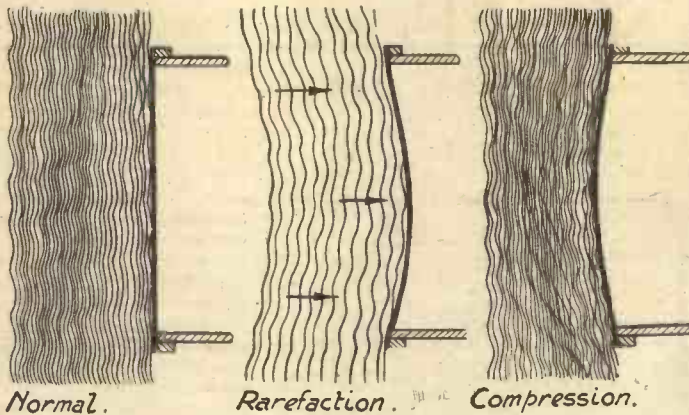

Fig. 1.—A diagrammatic representation of a drum-head, and the condition of the air surrounding it.
**B**EFORE we can discuss the question of the design of loud-speakers it is necessary to have a clear idea of just what a sound wave is. For the purpose of this article, I am going to deal with the reproduction of a note produced by a large bass drum, and the following description should be read in conjunction with Fig. 1. The figure at the left of this illustration represents a drum head at rest, and the thin wavy lines at the left are representative of the air in front of the vellum (or skin) of the drum. When the drum is struck the vellum is driven inwards, the actual distance of its travel being governed by the tautness of the vellum. When it has travelled its maximum distance inwards, the air, which will obviously have followed it, will be rarefied, and there will consequently be a movement of the air in the direction of the drum. As soon as the momentum of the vellum has been overcome it will tend